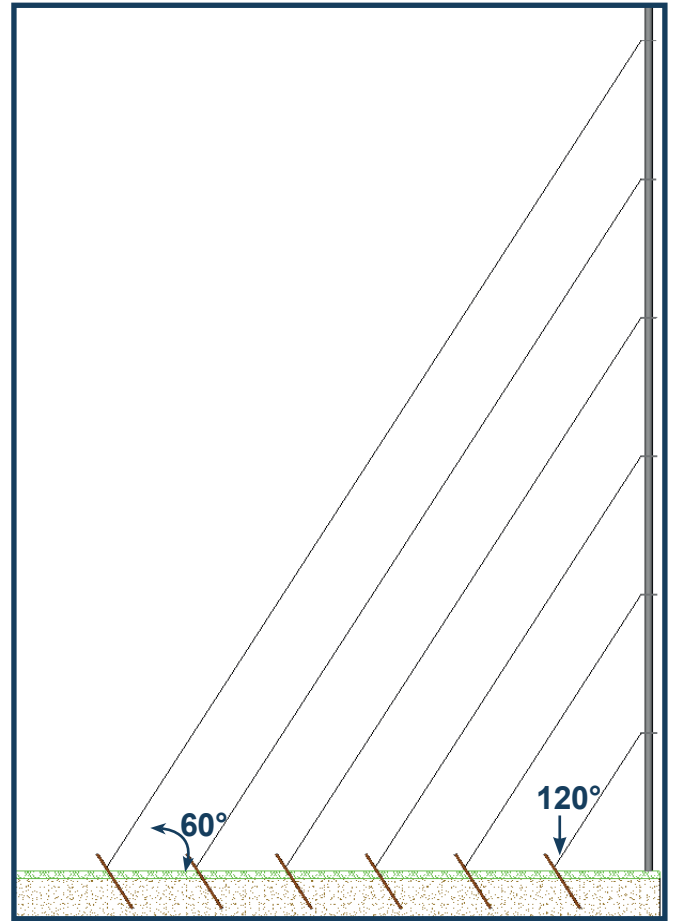

Fig 9 Example Temporary Installation of 6 section mast illustrating 60 degree angle guy wire from base.
- Guy anchors are not included, and at a minimum we suggest 4 x star pickets are installed, per collar ring, spaced evenly at 90 degrees and driven into the ground to a depth of at least 1 metre at 120 degrees (Fig 9). For long-term applications please reach out to our friendly sales team to discuss suggested solutions.
For permanent installations, we have anchored this example mast to four concrete blocks for ultimate stability and safety. Refer to the **Temporary Installation** section, **Table 2** and **Fig 9** for details on using star pickets as an alternative.
For temporary installations, we recommend using star pickets to anchor the guy wires or ropes. At a minimum, 4 star pickets should be installed for each collar ring, spaced evenly at 90 degrees and driven into the ground to a depth of at least 1 metre at 120 degrees (Fig 9).